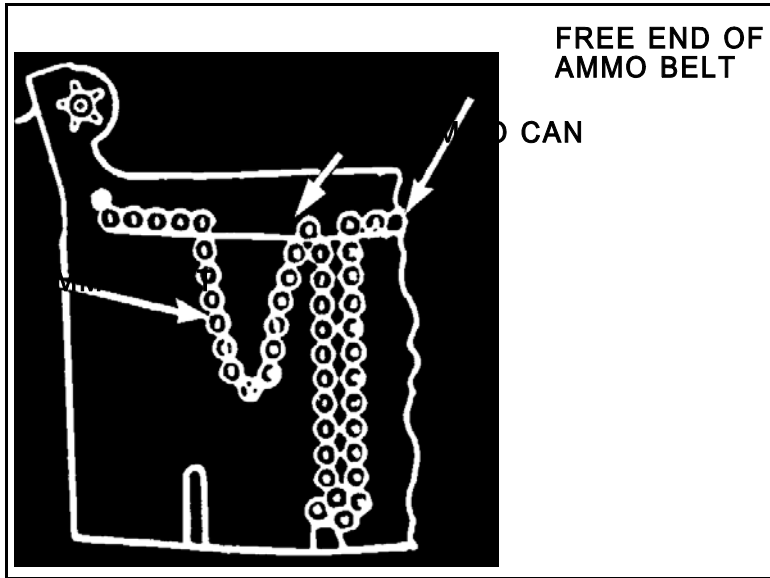

Figure 2. Separator.
- a. Form each belt into an “S” shape and use a separator (Figure 2).